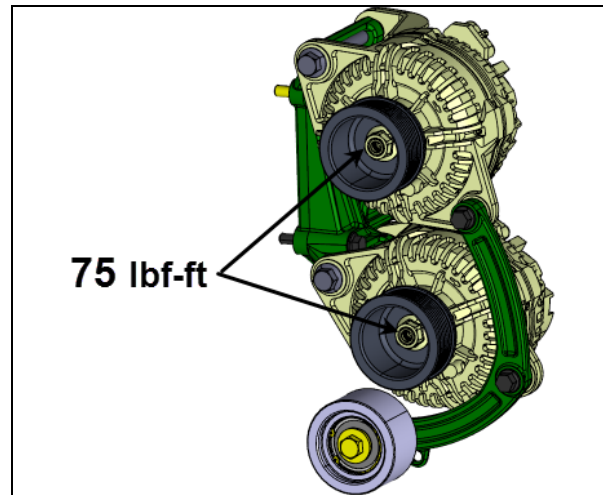

FIGURE 5
9. Mount pulley onto alternators (figure 5). Use Loctite 243 blue on threads. Tighten pulley mounting nut to **75 lbf-ft** using offset 7/8 wrench and a M10 12-points spline drive mounted on a torque wrench (refer to REQUIRED TOOLS for details concerning special tools).